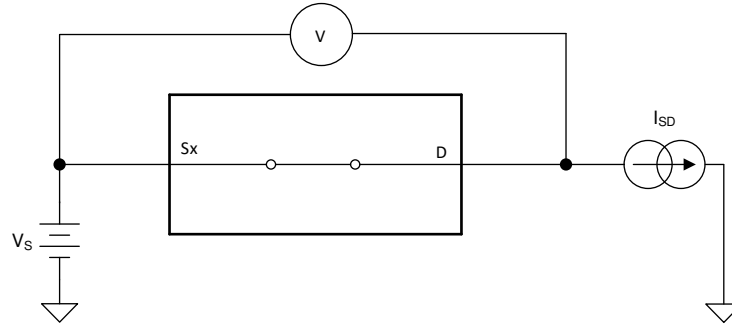

Figure 6-1. On-Resistance Measurement Setup
The on-resistance of a device is the ohmic resistance between the source (Sx) and drain (D) pins of the device. The on-resistance varies with input voltage and supply voltage. The symbol R_{ON} is used to denote on-resistance. The measurement setup used to measure R_{ON} is shown in Figure 6-1. Voltage (V) and current (I_{SD}) are measured using this setup, and R_{ON} is computed with $R_{ON} = V / I_{SD}$: